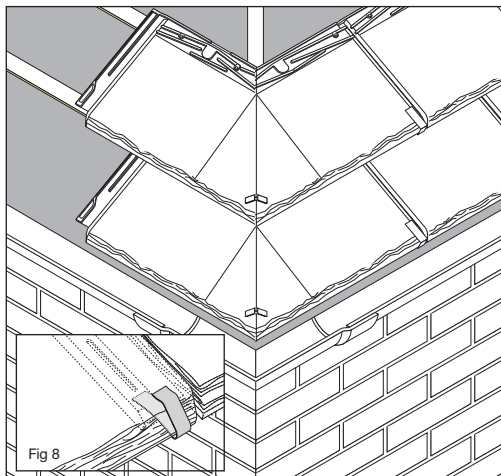

Fig 7
- 14 Repeat operations 9-12, thus fixing next course soaker in position (Fig 7).